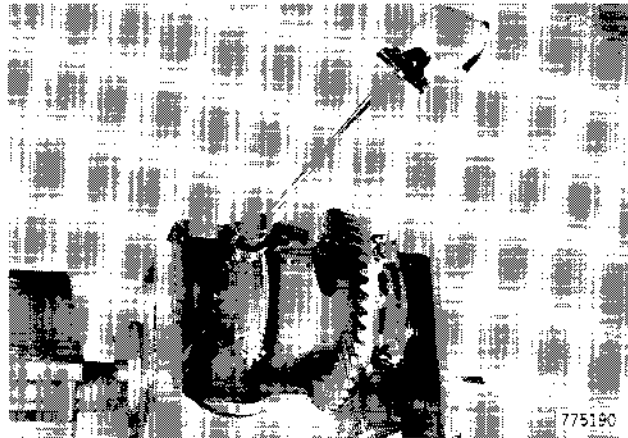

Figure 208
58. Tighten differential cap retaining cap screws to 120 foot-pounds (163 N m), Figure 208.